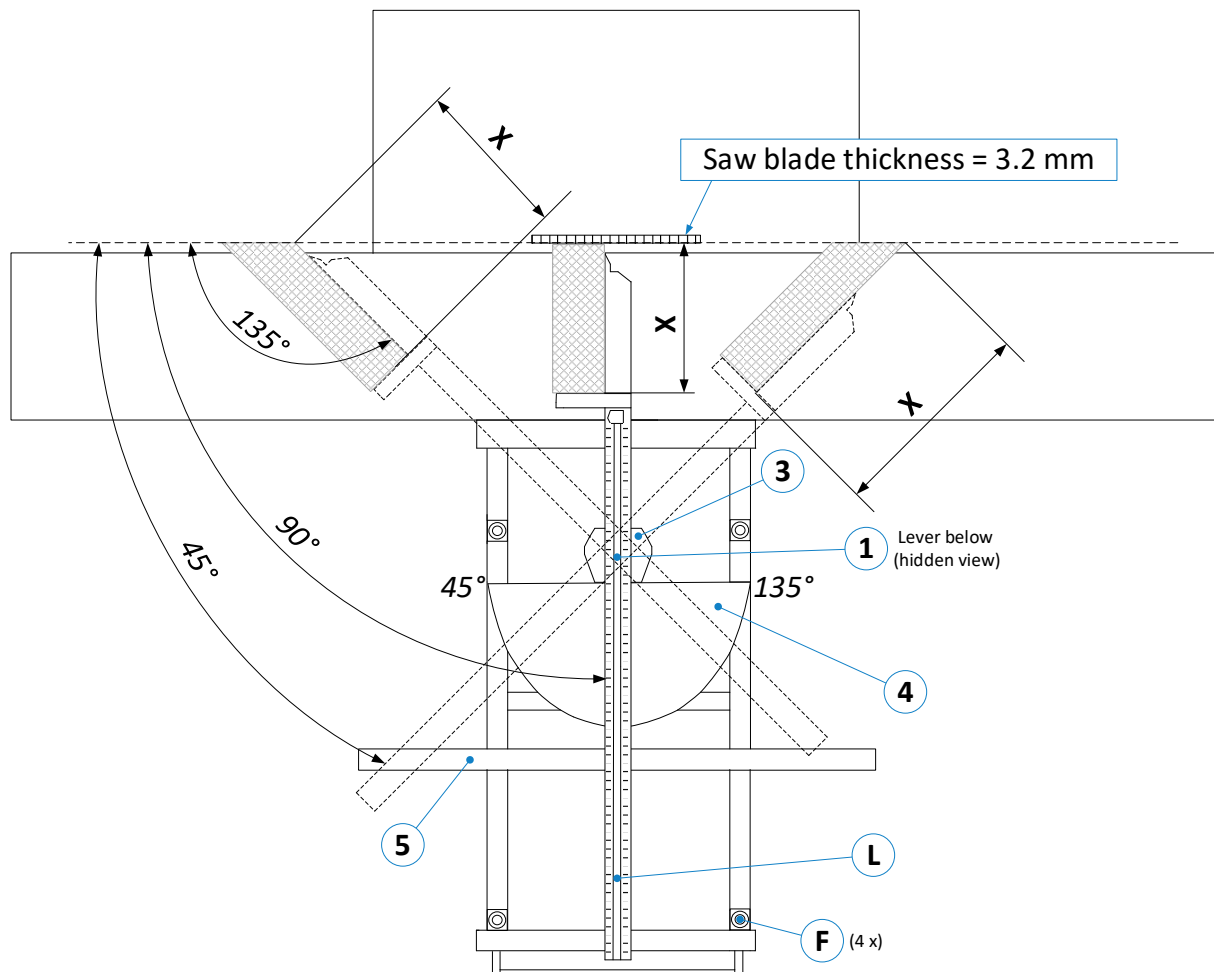
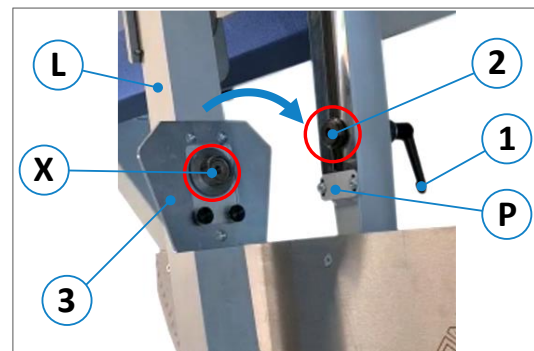

Figure 1: Super Gehrfix I overview
Figure 2: Attach cross-cut fence
- Loosen clamping lever (1) and push the locating bolt (2) in the direction of the stop plate (P) as shown in ⇒ Figure 1 and ⇒ Figure 2.
- Now place the cross-cut fence (L) on the cross slide so that the locating pin (2) can be inserted into the receptacle (X) on the underside of the stop plate (3).
- Then tighten the clamping lever (1) again.